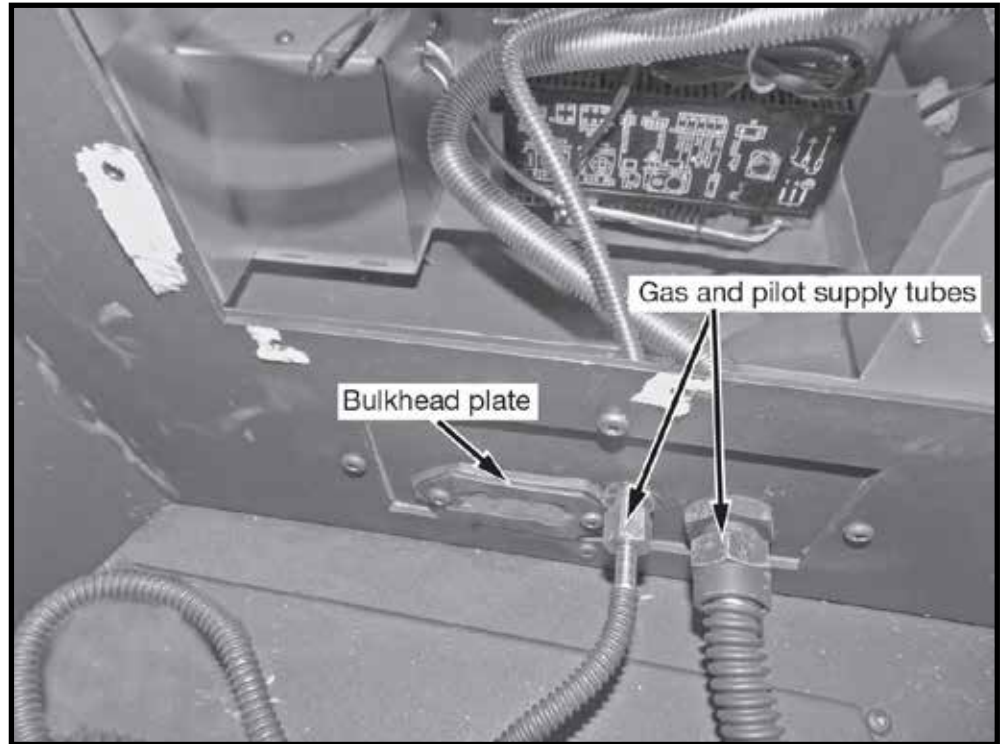

Figure 5: Gas and pilot supply tubes.
4. Attach the manifold and pilot supply tubes to the bulk head fitting and tighten (Figure 5).